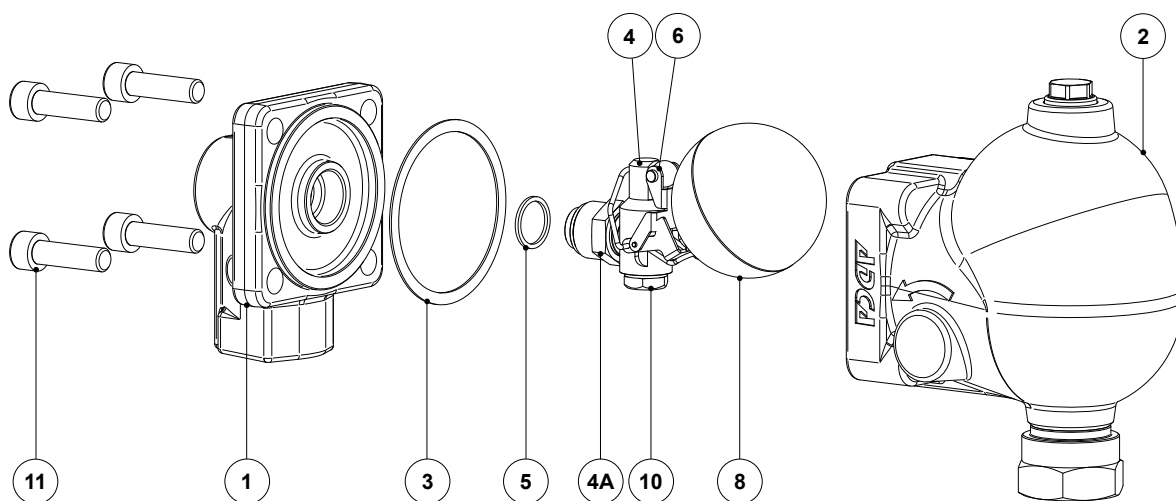

Fig. 3 - Flow direction change
1. Undo the bolts (11) gradually in a crisscross pattern and separate the cover (2) from the body (1).
2. Remove the body gasket (3) and clean surfaces thoroughly, leaving no remaining graphite leftovers.
3. Unscrew the seat nut (4A), inspect the gasket (5) and replace if necessary.
5. Rotate the body (1) to meet the desired flow direction according to Fig. 2 and Fig. 3, keeping the mechanism assembly (4, 6, 7, 8) with the plug (10) pointing downwards. Replace the "POINT DOWN" sticker accordingly.
6. Secure the seat (4) and tighten the seat nut (4A) with the recommended torque – see section 9.6 – Tightening torques.
7. Fit a new body gasket (3) and install the cover (2) with the protruding section pointing upwards.
8. Apply a suitable lubricant to the threads of the bolts (11), and tighten gradually in a crisscross pattern until the recommended torque is achieved – see section 9.6 – Tightening torques.